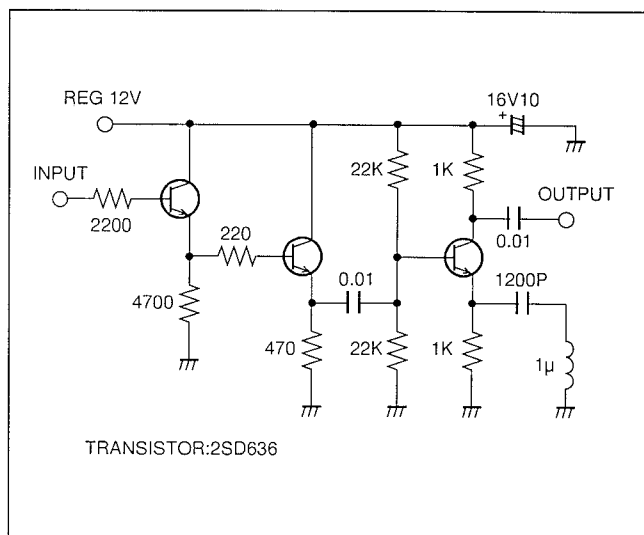

Fig. E25
2. Connect the service circuit to TL8006 as shown in Fig. E25.